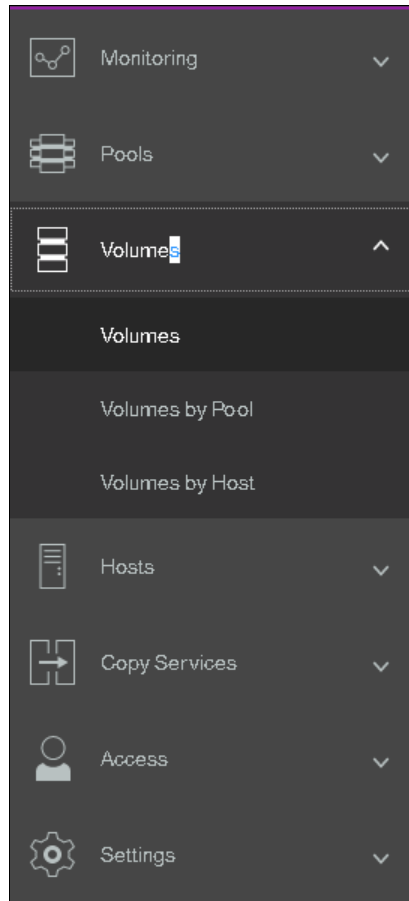

Figure 6-7 Volumes
1. Click on the **Volumes** on the main panel as shown in Figure 6-7 on page 281.